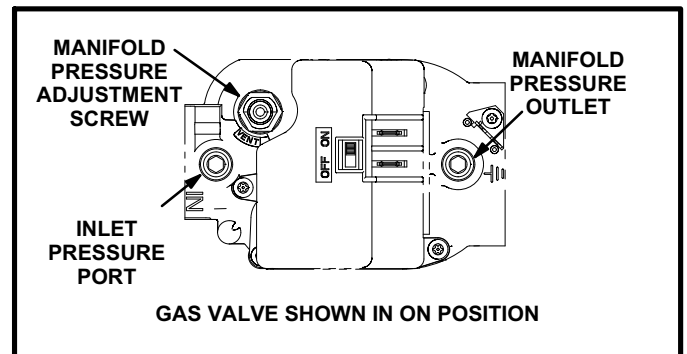

FIGURE 59
Gas Valve Operation (Figure 59)
- 6 - Move gas valve switch to **OFF**. See figure 59.
- 8 - Move gas valve switch to **ON**. See figure 59.
When testing supply gas pressure, use the 1/8" N.P.T. plugged tap or pressure post located on the gas valve to facilitate test gauge connection. See figure 59. Check gas line pressure with unit firing at maximum rate. Low pressure may result in erratic operation or underfire. High pressure can result in permanent damage to gas valve or overfire.